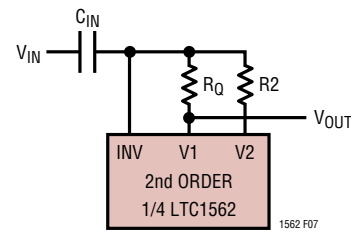
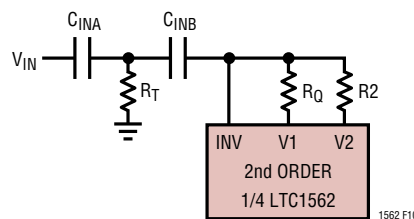

Figure 7. Basic Highpass Configuration
Figure 10. Highpass “T” Input Circuit
When Z_{IN} of Figure 3 is a capacitor of value C_{IN} , a highpass response appears at the V1 output (Figure 7).
- Highpass response (capacitor input, V1 output, Figure 7) with $f_0 > 100\text{kHz}$
A method similar to the preceding technique adds an “extra” highpass pole to any capacitor-input application (such as the bandpass of Figure 6b or the highpass of Figure 7). This method splits the input capacitance C_{IN} into two series parts C_{INA} and C_{INB} , with a resistor R_T to ground between them (Figure 10). This adds an extra 1st order highpass corner with a zero at DC and a pole at the frequency: